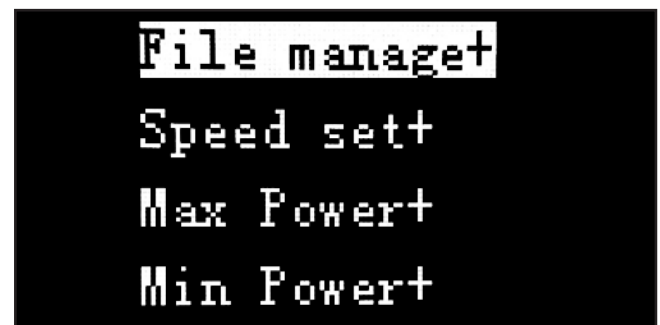

Figure 93. Main menu screen.
3. Loosen and remove (3) cap screws from both laser tube covers on each side of main tube cabinet to access Mirror #1.
5. Press Menu button. Main menu screen will open (see **Figure 93**).